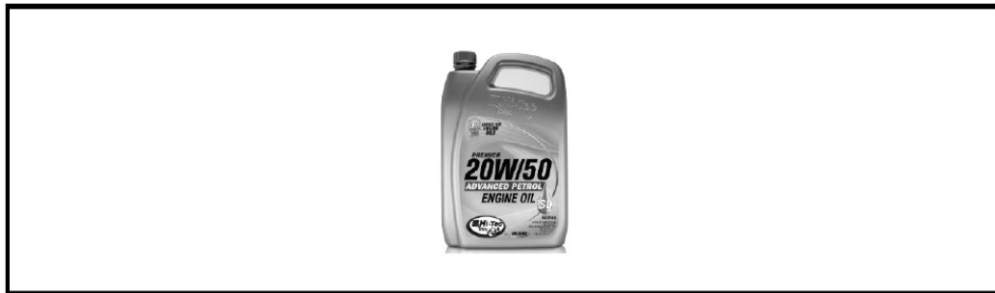

FIGURE 4.7
- D All of the above (1)
4.7 SAE 20W50 oil, as illustrated in FIGURE 4.7 below, is used for ...